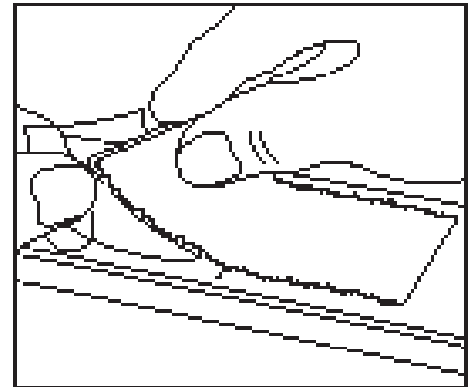

Fig.13
2. Center the black Velcro patch over the mark, peel off the protective backing and press firmly into place (**Fig.13**).